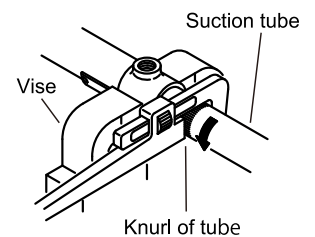

Fig.11
6. By using a pipe wrench on the knurled of the tube. Unscrew the outer tube to take it off from the main body. (Fig.11)